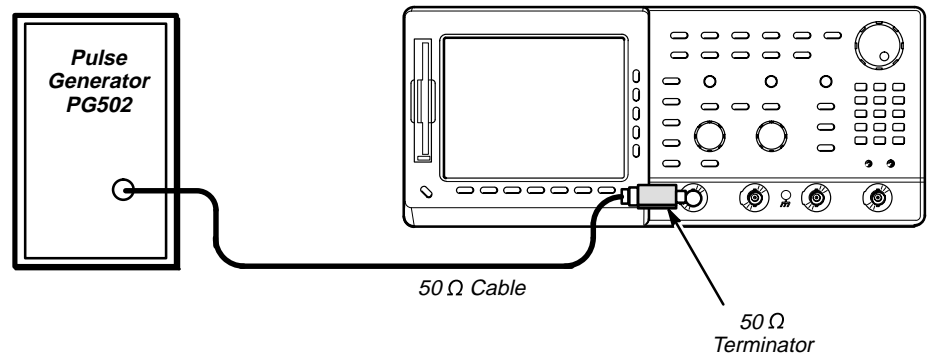

Figure 1-39: PG502 Setup for Sync Duty Cycle Test
- Connect the pulse generator (PG502) through a 50 Ω cable and a 50 Ω terminator to the oscilloscope CH1 input (See Figure 1-39).